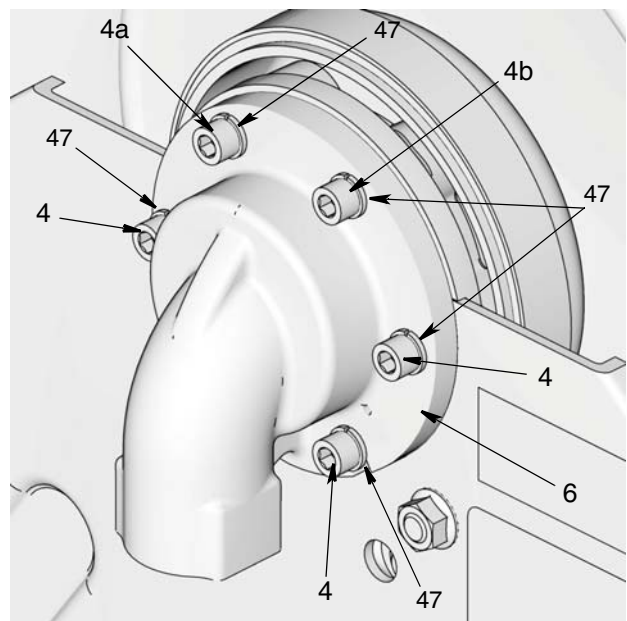

FIG. 3
For the following steps, refer to FIG. 3.
3. Remove bolts (4) and lock washers (47).
4. Remove and rotate swivel (6) to desired location.
5. First install the top 2 bolts (4a and 4b) and lock washers (47) as shown in FIG. 3. Tighten bolts just enough to hold everything in place.
6. Then install the remaining bolts (4) and lock washers (47). Hand tighten and then torque all bolts to 25 to 35 ft. lbs (33.9 to 47.45 N•m).